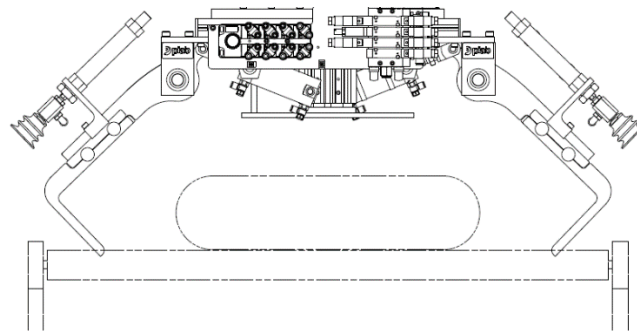

Figure 9 Bag gripper opening
- As the bag gripper approaches the bag on the roller conveyor, the cylinders of the gripper must be retracted causing the fingers to open, see figure 9 below. The bag gripper should be positioned vertically so that when the fingers close, there must be some space between the fingers and the bottom of the bag before lifting.